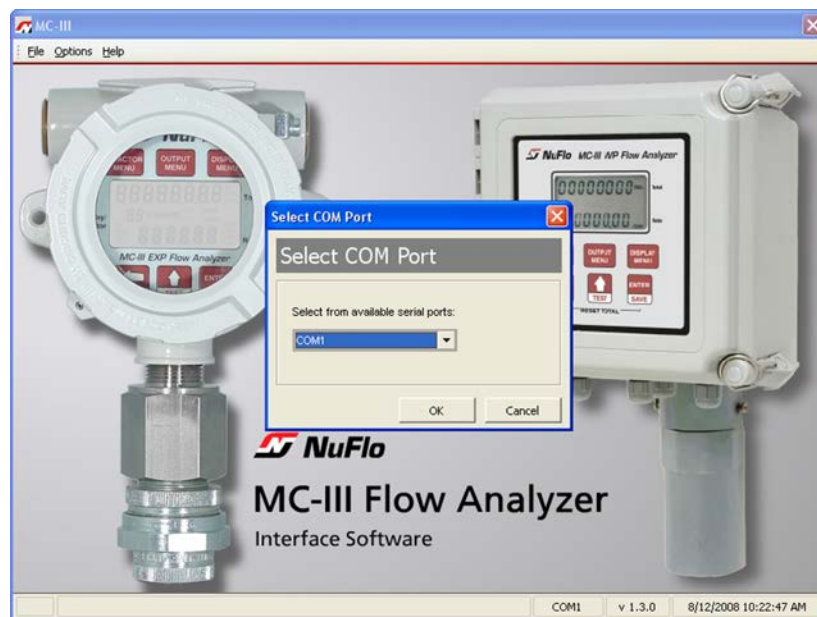

Figure 4.2—Select COM Port window
Click the Help menu in the task bar at the top of the Welcome screen (Figure 4.2, page 42) to access documentation for installing, configuring, and operating the MC-III EXP flow analyzer. This documentation includes:
1. Click on the NuFlo MC-III icon on the desktop, or select Start>Programs>NuFlo>MC-III 2.1.0>MC-III 2.1.0. The Welcome screen (Figure 4.2) will appear and a Select COM Port window will prompt the user to select the communications port to be used to connect with the MC-III EXP (Figure 4.2).